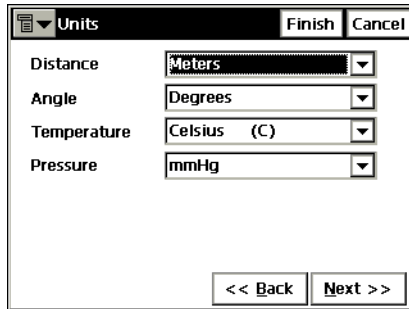

Figure 3-63. Units
2. Set the distance and angle units of the job in the *Units* screen and tap **Next** (Figure 3-63). For the Total Station mode (except when in the Contractor Mode), also select the temperature and pressure units.